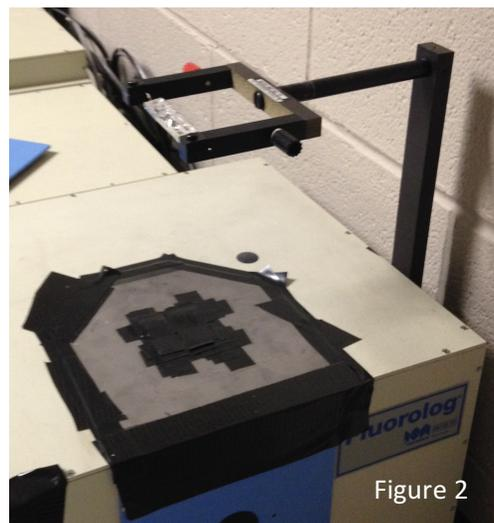

Figure 2
5. Remove the screws on the lamp holder. **While wearing cloth gloves**, remove the standard lamp from its storage and **gently** place the lamp so the silver wires are underneath the screws on the holder. Tighten the screws onto the lamp. Your set-up should look like Figure 2.